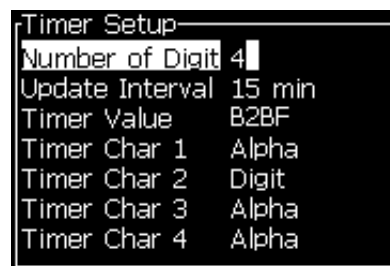

Figure 5-43: Timer Setup
- 4 Set the following values for Timer Setup (see Figure 5-43).